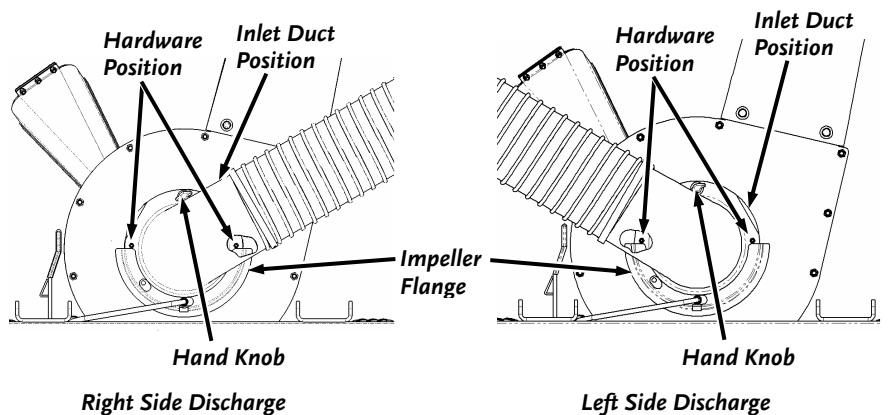

Figure 13
1. Remove the Hand Knob and slide the Inlet Duct out of the Impeller Flange (**Figure 13**).